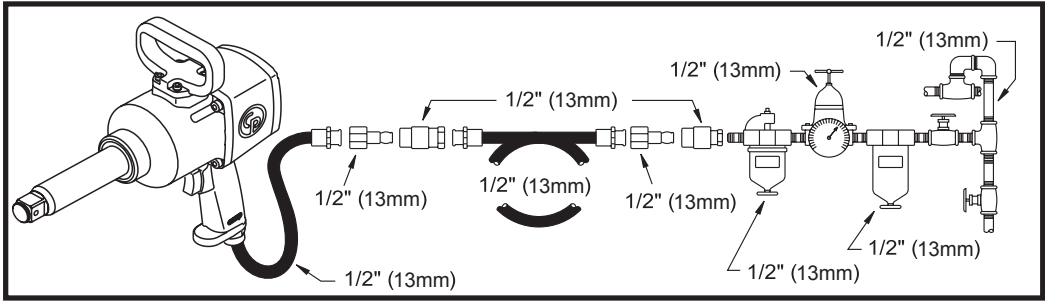

Fig. 1
- Connect device as shown in Fig.1.
- To switch rotation, turn the regulator (B)
- To start the machine, simply pull the trigger (A). Machine speed is increase by increasing pressure on the trigger. Release the trigger to stop.
- To adjust output power, turn the regulator (B)
- Use the reverse switch (B) only when the drive spindle comes to a complete stop. Changing the speed before the drive spindle stops may damage the machine.
- Use an air line lubricator with SAE #10 oil, adjusted to two (2) drops per minute. If an air line lubricator cannot be used, add air motor oil to the inlet once a day. Recommended Lubricant CP Oil PROTECTO-LUBE: